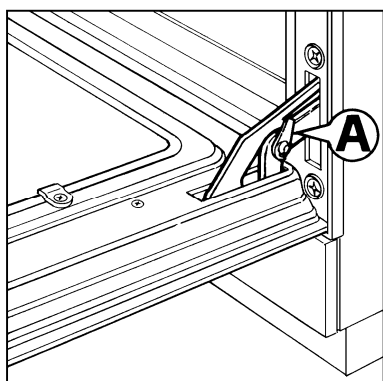

Fig. 4
- attach the rings "A" onto the hinge seats (Fig. 4);